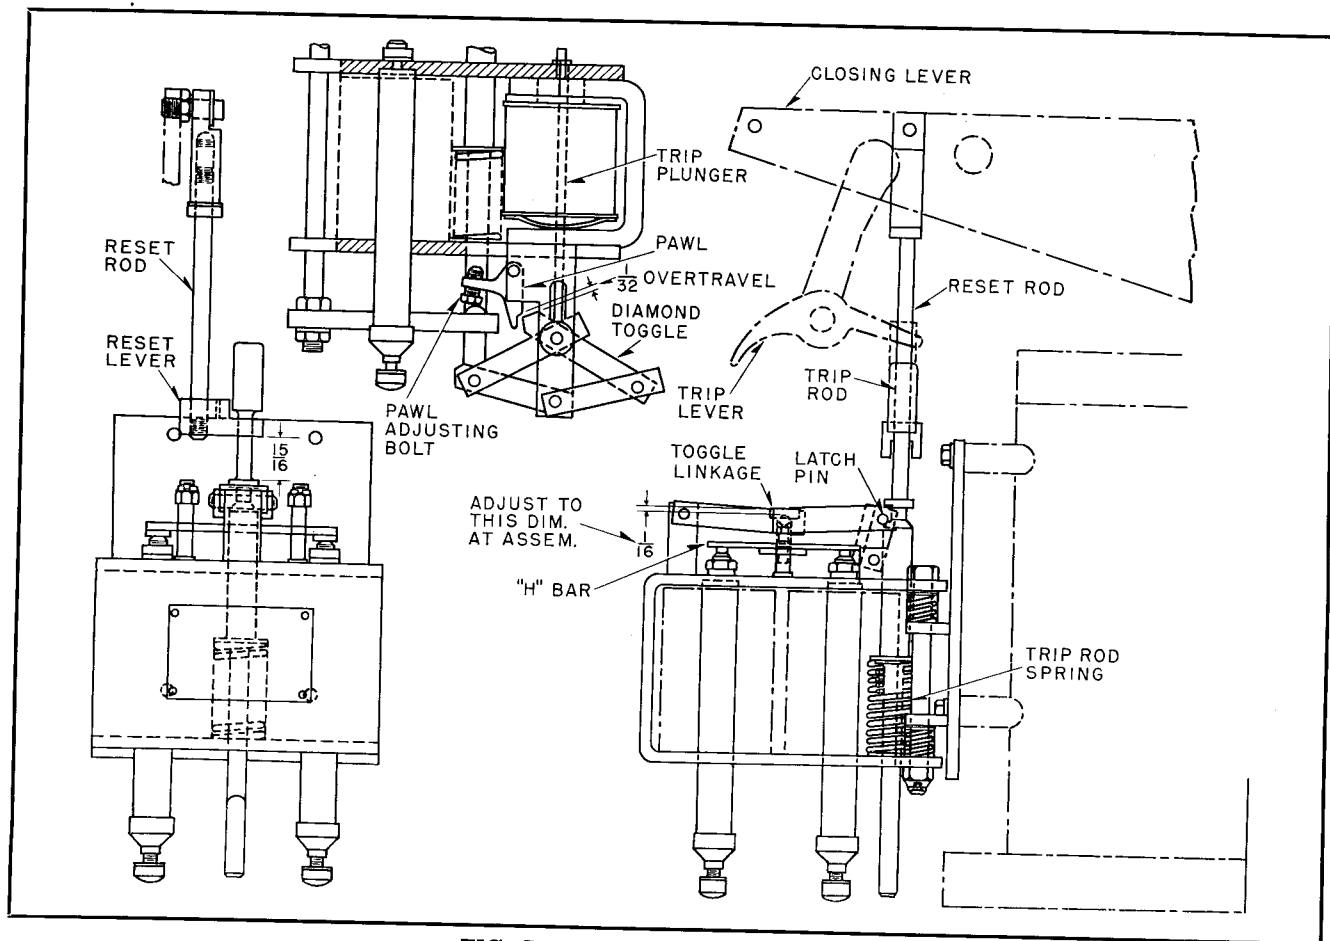

FIG. 7. Four-Coil Trip Attachment
**4-Coil Trip Attachment.** This tripping device, illustrated in Fig. 7, is to be used when transformer trip coils, capacitor trip, or undervoltage release is required. Space is provided for a total of four trip coils, including shunt trip, overload trip (with or without inverse time attachment), and undervoltage trip. Any combination of coils up to four can be used except only one undervoltage trip can be used.
Referring to Fig. 7, the trip rod is located under the trip lever. The trip rod is held down by a toggle linkage which engages it in the notched portion. This linkage consists of links and a "U" lever which are normally down over center. When the linkage is struck in the center from below, the toggle is broken, the latch pin moves to the left and the trip rod is forced up by the trip rod spring.